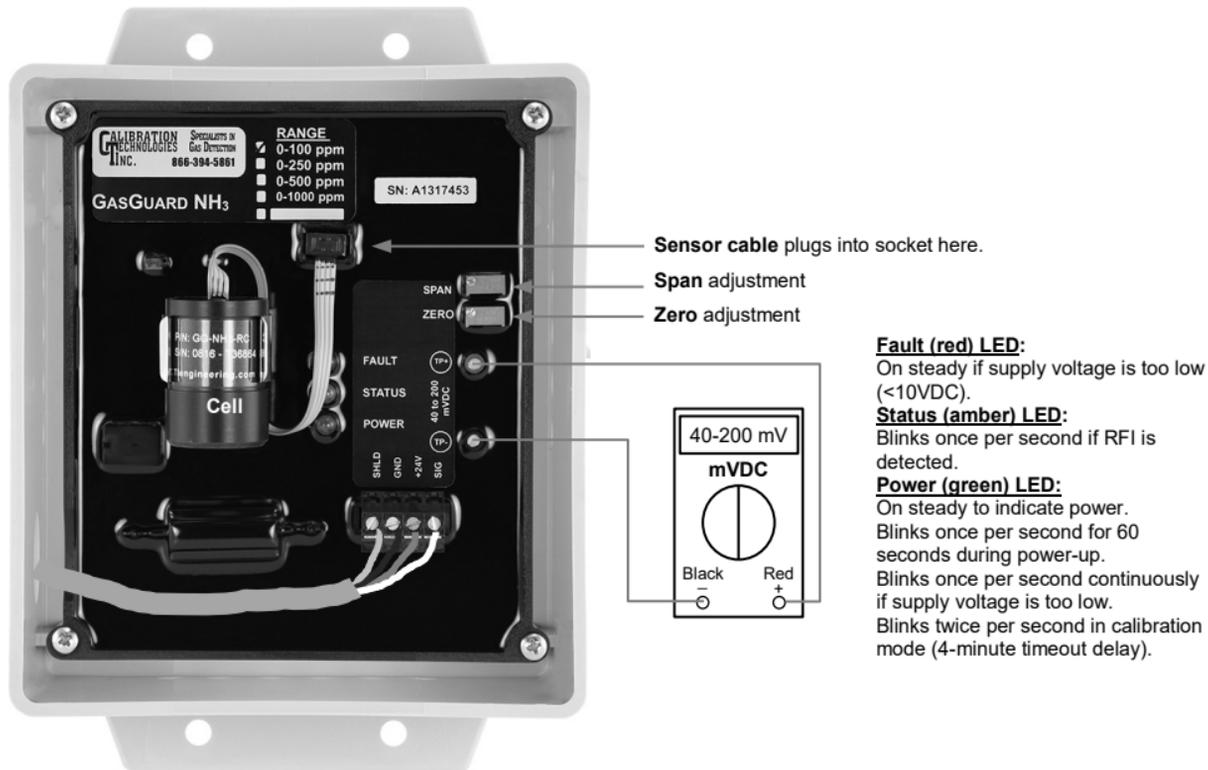

Figure 3: Sensor board components and zero/span adjustments
LED functions (see Figure 3 on page 8)
The GasGuard NH₃ Sensor comes factory calibrated and should require only minimal adjustments after installation. There are two pots on the preamp that are used for calibration (see **Figure 3**).
- Adjust the Zero pot until the sensor outputs 40 mV from Test [-] to Test [+] (see **Figure 3**).
- Once the output signal has peaked (or 2 minutes maximum) adjust the Span pot until the correct output is achieved (see **Figure 3**). With full-scale span gas, the calculated span value is 200 mV. ($(\text{span gas} / \text{sensor range} * 16 + 4)$ (mA output))